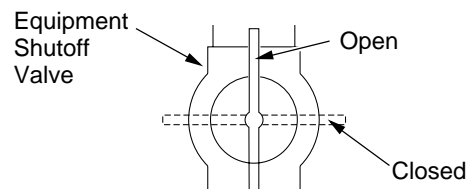

Figure 33 - Equipment Shutoff Valve
1. Close equipment shutoff valve (see Figure 33).
1. Open equipment shutoff valve (see Figure 33, page 20).